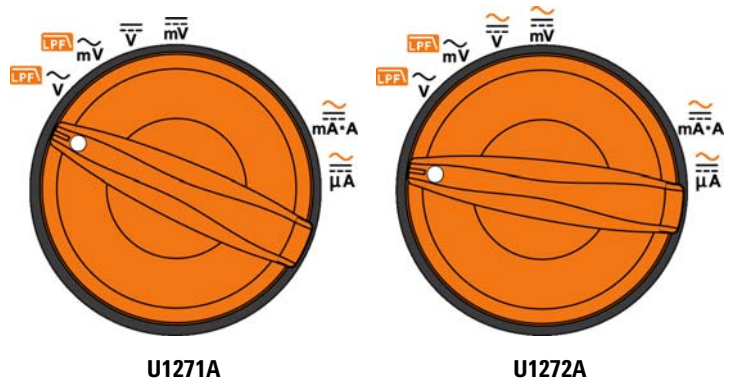

Figure 2-35 Functions allowing frequency measurement
Your multimeter allows simultaneous monitoring of real-time voltage or current with frequency, duty cycle, or pulse width measurements. Figure 2-35 highlights the primary functions allowing frequency measurements in your multimeter.
1 To measure frequency, rotate the switch to one of the primary functions allowing frequency measurements highlighted in Figure 2-35.
- 1 To measure pulse width, position the rotary switch to one of the functions allowing frequency measurements shown in Figure 2-35.
- 1 To measure duty cycle, position the rotary switch on one of the functions allowing frequency measurements shown in Figure 2-35.